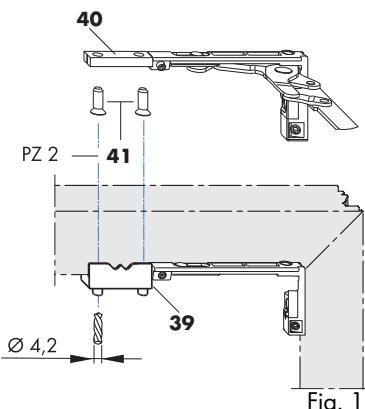

Fig. 1
- E** Insert shoot bolt LM VSU A0004 (19) with attached striker E (18) into the secondary sash profile from below.
- F** Insert shoot bolt LM VSO A0004 (15) with attached striker VSO (16), operating rod S8 and locking element (17) into the secondary sash profile from above.
- G** Position striker E (6/18) with striker jig LM and fix in place with grub screws M5 (torque $2.5 \pm 0.25 \text{ Nm}$) (Fig. 1).
1. Insert the BS axxent 130 kg jig (39) on loosened stay, as shown in the adjacent diagram (fig. 1).
2. Drill holes with \varnothing 4.2 for the BSO A0040 supporting piece (39).
3. Insert the BSO A0040 supporting piece (40) into the frame groove, position it on the stay and fix it in place with M5 x 13 countersunk screws (41).
4. Tighten the M5 x 13 countersunk screws (41) with 2.5 ± 0.25 Nm.